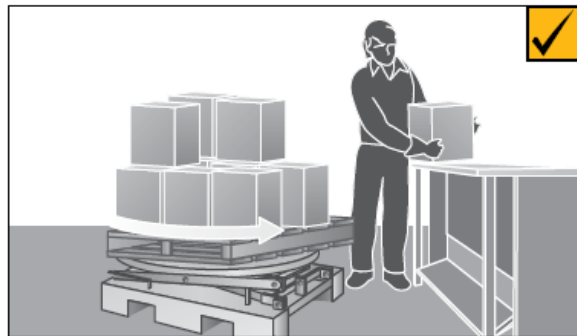

Figure 1. Turntable with pneumatic scissor lift.
1. Provide a scissor lift with a pallet ring turntable similar to the type shown in Figure 1 overleaf.